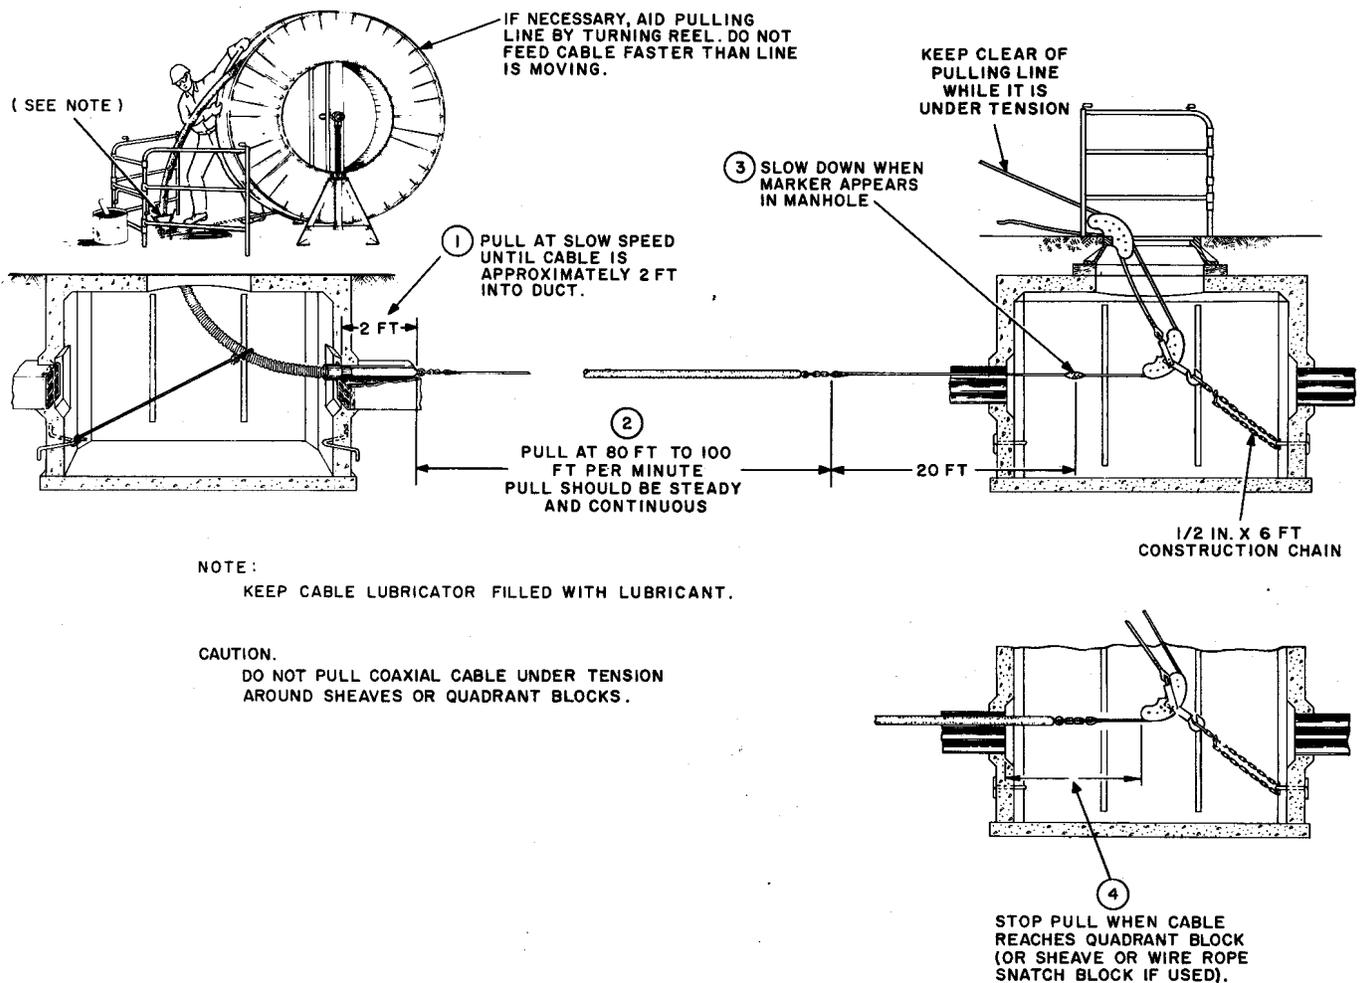

Fig. 14—Typical Setup for Placing Coaxial Cable in Underground Conduit
11.04 Before starting the pull, check the equipment carefully to make sure that it is properly set up to minimize the chance of interruption once pulling has started. Tension should be kept on both the cable reel and the pulling line at the start of the pull. Excessive slack and the twist of the pulling line may cause the connecting links to turn and catch in the duct. As far as possible, the cable should be pulled in without stopping until the required amount of cable is in each manhole. A pulling speed of 80 to 100 feet per minute is desirable. Figure 14 illustrates cable being placed in underground conduit.